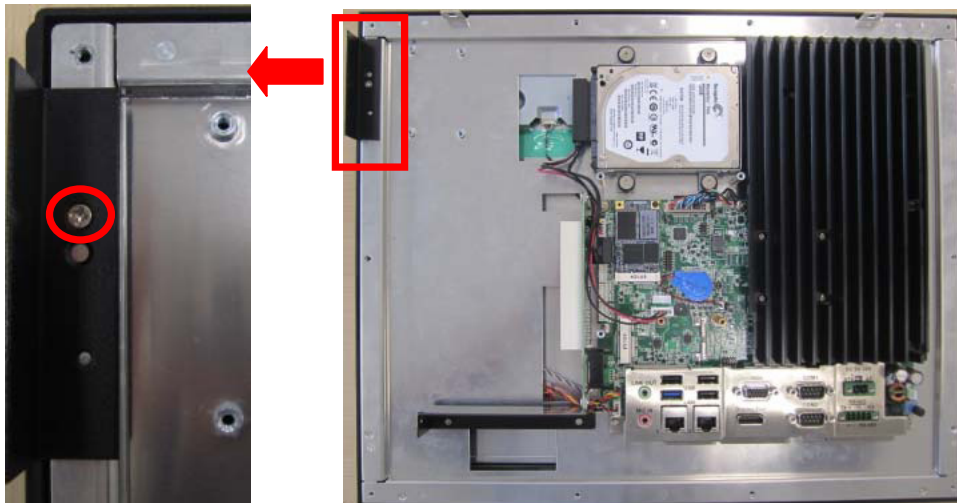

Figure 2.38
- Remove the screw on the side of the I/O cover (see Fig. 2.38).